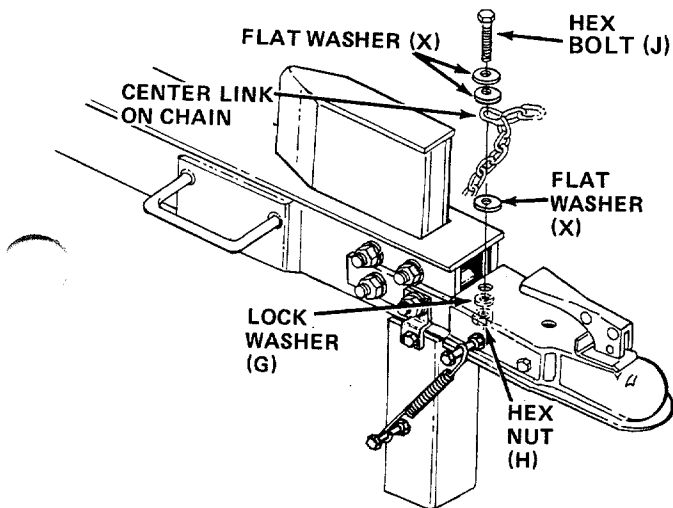

FIGURE 7
10. Find the center link of the tow hitch chain. Place two flat washers (X) on hex bolt (J), then the center link on chain and another flat washer (X). Insert bolt down through the hole in the tow hitch assembly which is nearest the wedge. Secure with lock washer (G) and hex nut (H). See figure 7.